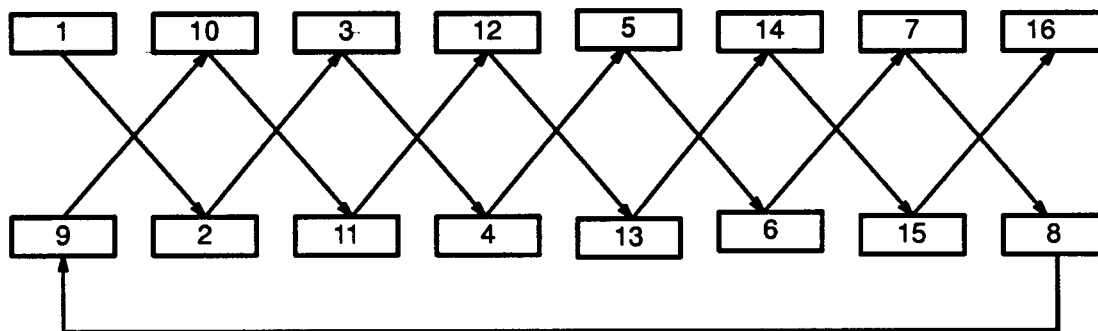

Figure 6 - Soldering IC Chip Leads
5.10.11 Solder IC chip leads in the sequence shown in Figure 6.